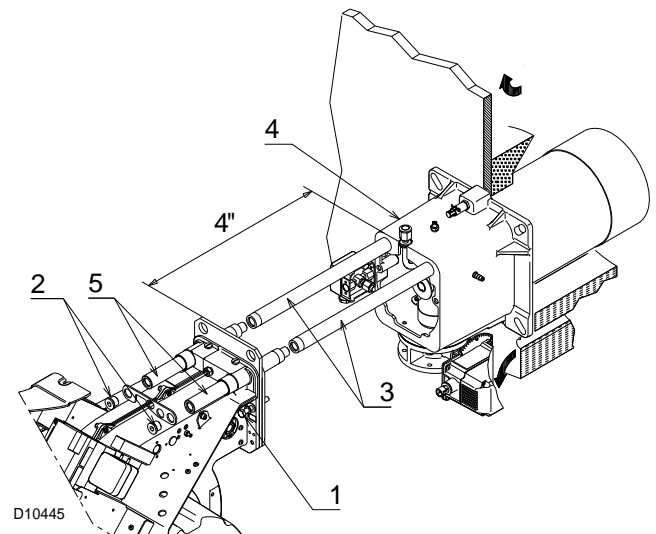
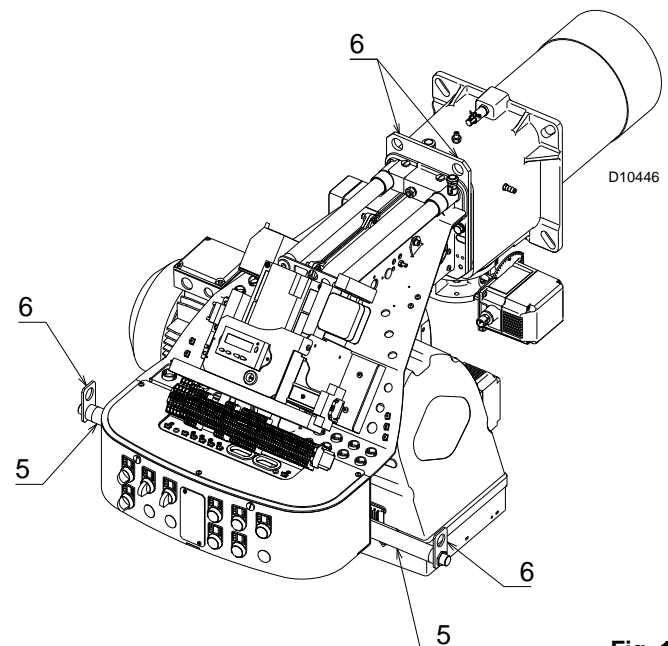

Fig. 17
Fig. 18
- push the burner on the sliding bars 3) at approximately 4" from the pipe coupling 4) - burner in the position shown in Fig. 17;
- insert the electrode cable, then slide the burner as far as the pipe coupling - burner in the position shown in Fig. 18;
- unscrew the 2 screws 2) from the extension 5) and reposition them as previously Fig. 18.
Key Fig. 17 and Fig. 18